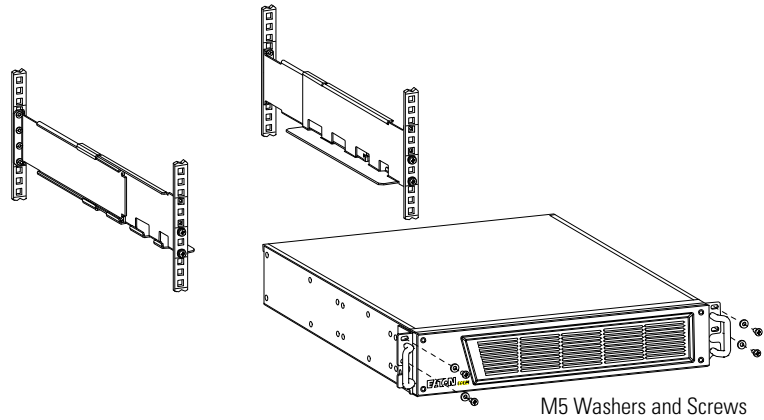

Figure 3. Securing the Front of the Cabinet
10. Secure the front of the cabinet to the rack using two M5 washers and two M5 screws on each side (see Figure 3).